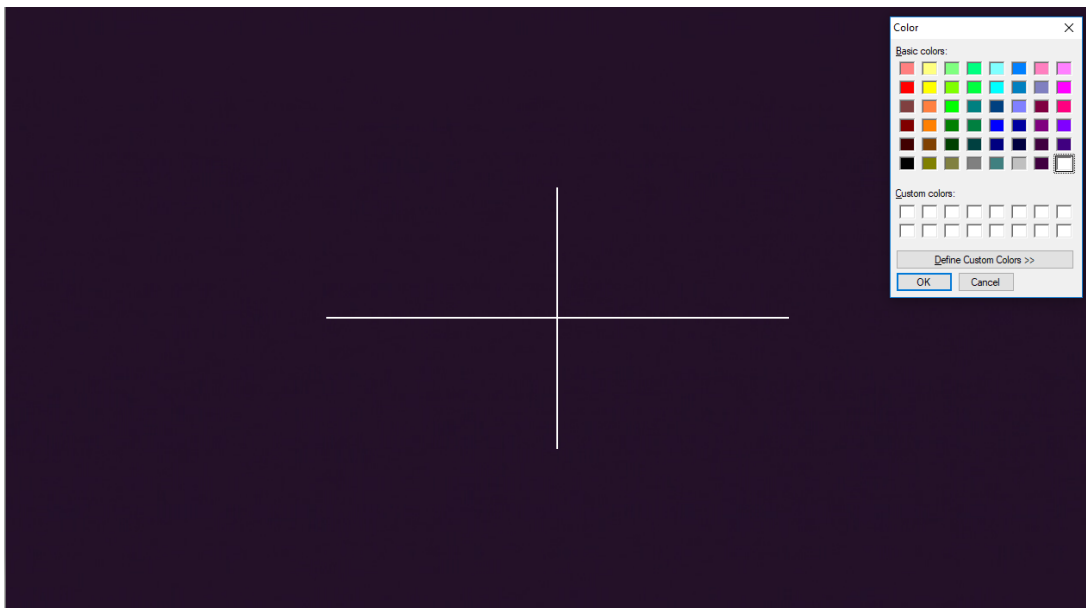

Fig 5-60 Change Line color to White
(3) Choose Color  : Choose the Auxiliary Line color. Fig 5-60 is to change the line color to White.